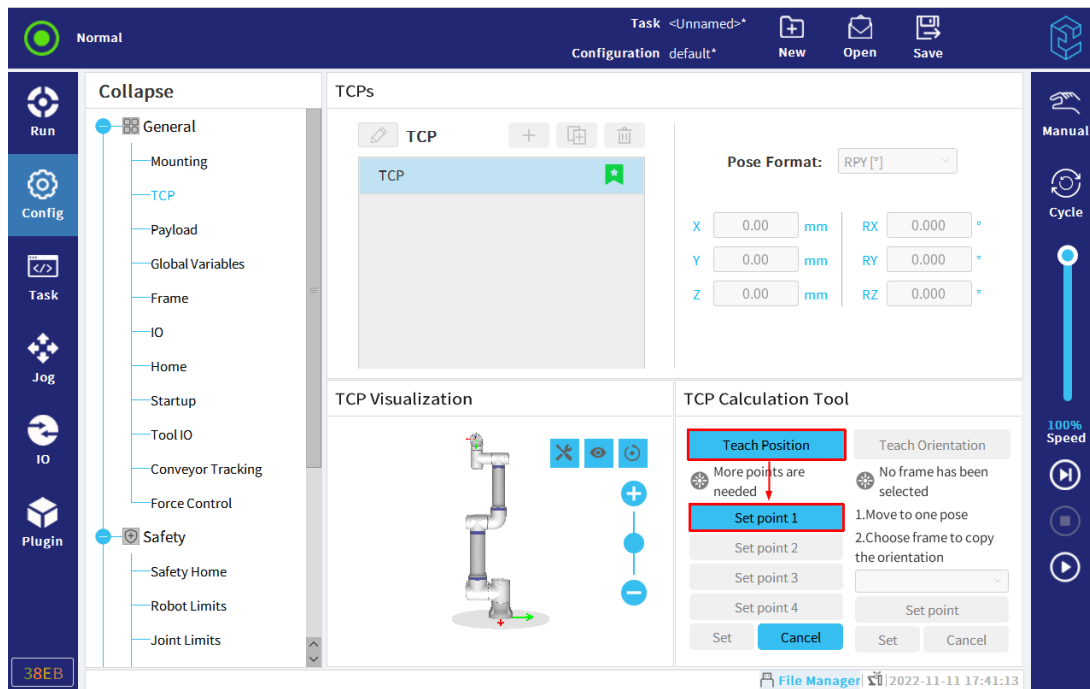

Figure 3-38 : Set point 1
1. Click "Teach Position > Set point 1", as shown in **Figure 3-38** .